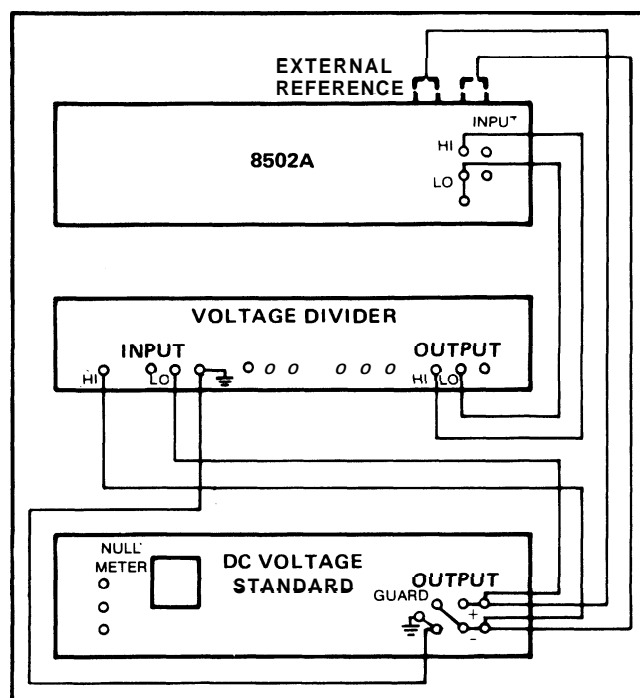

Figure 4-3. DC External Reference Test
1. Connect the test equipment to the 8502A as shown in Figure 4-3.